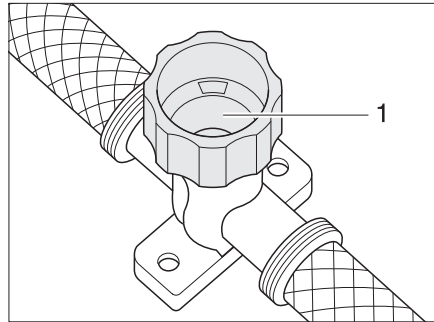

Fig. 124 Drain cock for water heater
- Close the drain cock. To do so, turn the cap (Fig. 124,1) clockwise.
- Open the drain cock of the water heater. To do so turn the cap (Fig. 124,1) anti-clockwise.